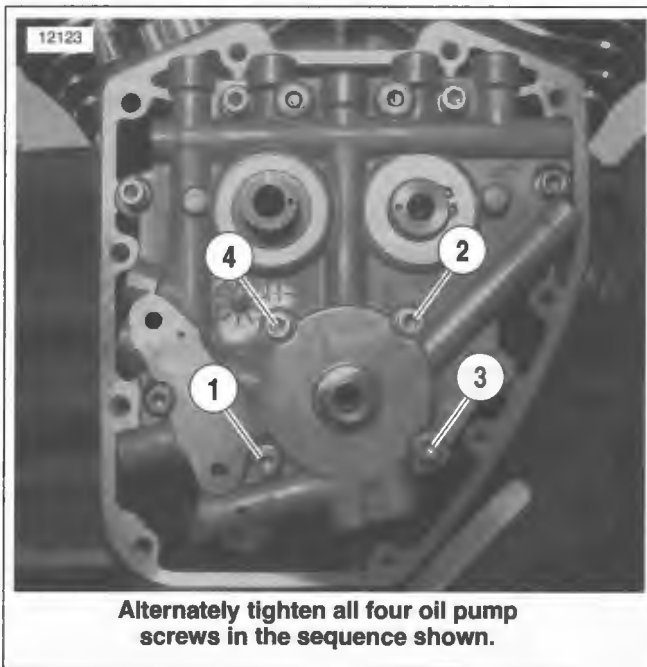

Figure 3-79. Oil Pump Torque Sequence
6. See Figure 3-79. Install oil pump. Start two screws (1/4 x 1.0 in.) into holes 3 and 4.